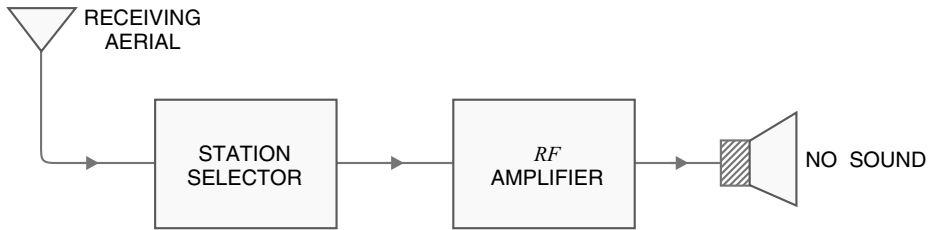

Fig. 14.23
**Necessity of demodulation.** It was noted previously that amplitude modulated wave consists of carrier and sideband frequencies. The audio signal is contained in the sideband frequencies which are radio frequencies. If the modulated wave after amplification is directly fed to the speaker as shown in Fig. 14.23, no sound will be heard. It is because diaphragm of the speaker is not at all able to respond to such high frequencies. Before the diaphragm is able to move in one direction, the rapid reversal of current tends to move it in the opposite direction *i.e.* diaphragm will not move at all. Consequently, no sound will be heard.